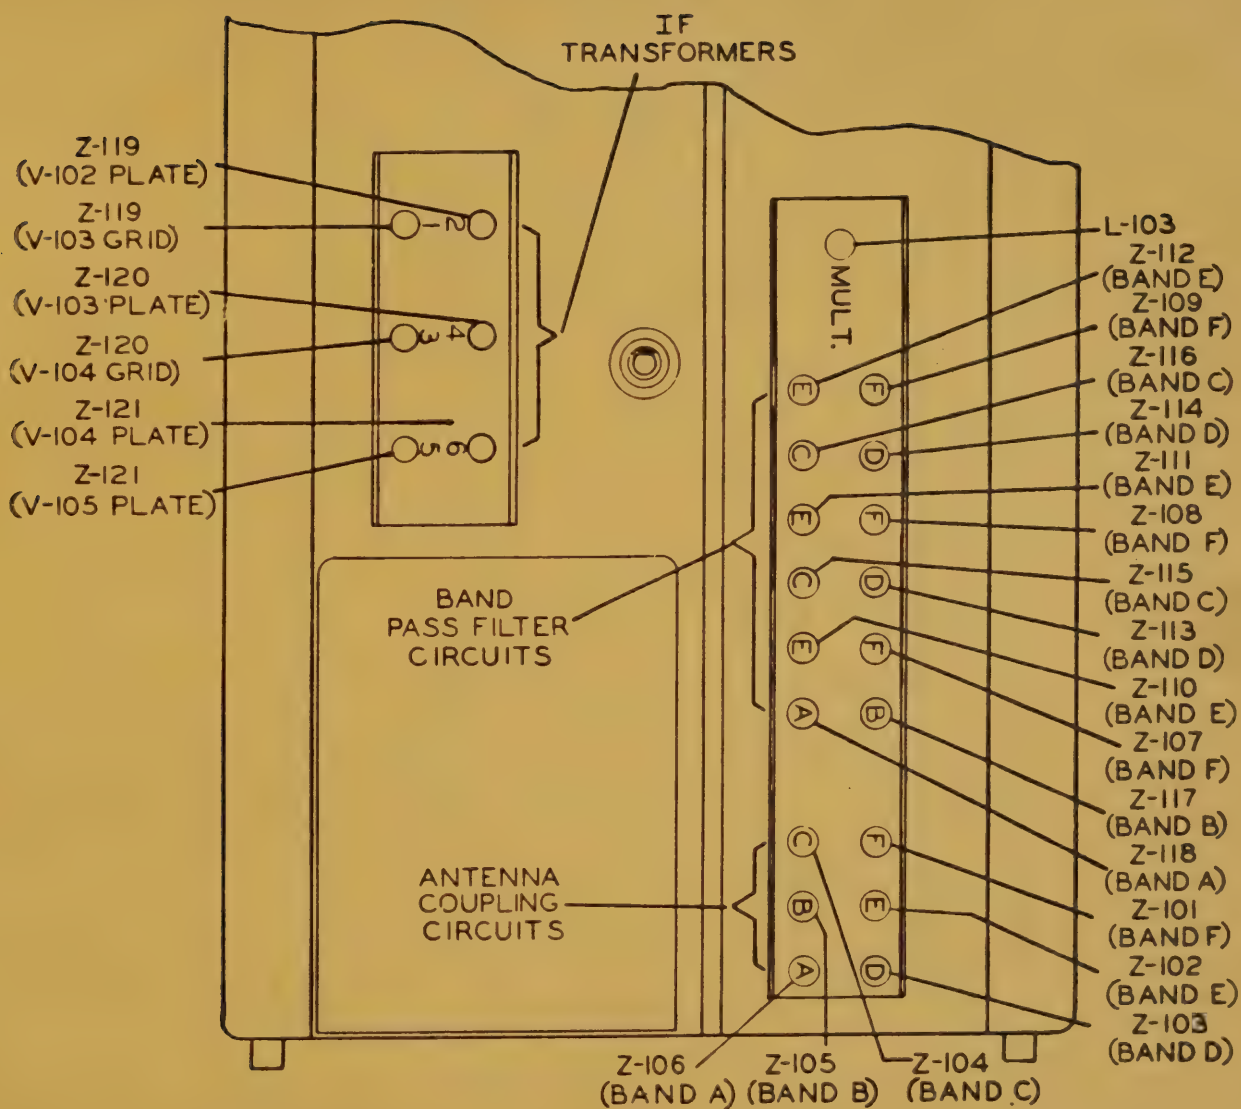

Figure 5-6A Tuned Circuit Locating Diagram
(9) Adjust i-f slug numbered "1" (Z-119, V-102 Plate) on the i-f platform (see figure 5-6A) for maximum output meter readings. Repeat procedure for slugs 2-3-4-5 and 6.
(1) Rotate the TUNING control to the stop on the high frequency end of the band, then back away from the stop from two to three turns of the TUNING control.
(2) Adjust the signal generator to the frequency arrived at on the receiver. Adjust both the signal generator and the output meter to find the avc threshold level as outlined in steps (7) and (8) under i-f alignment procedure.
(3) Check the band pass and antenna coil tuning slugs of the band or bands to be aligned to make sure they are near the end of travel out of their respective coils (refer to Figure 5-6A).
(5) Stamped on the cover adjacent to each hole will be found a letter and a number. The letter corresponds to the band indicated on the tuning dial and the associated slug as shown on Figure 5-6A. Use a non-metallic alignment screwdriver to adjust the trimmer capacitor corresponding to the band it is desired to adjust.
(6) Trimmer and slug adjustments are numbered consecutively beginning with the antenna coil. Adjustments for any one band should be made beginning with the highest numbered trimmer or slug adjustment and proceed to lower numbered trimmer and slug adjustments. It should be noted that the number of tuned circuits varies with the frequency bands, increasing in number as the frequency is lowered.
(7) Each trimmer should be adjusted for maximum reading on the output meter, taking care to back off the signal generator output so as not to exceed the avc threshold level determined in step (5).
(8) After the high frequency end of a given band is adjusted according to the above procedure, tuning control should be rotated to the stop at the low frequency end of the band. Back away from the stop two or three turns of the TUNING control.
(9) Find the frequency with the signal generator and adjust the correspondingly designated slug for maximum output meter reading.
(10) Repeat steps (1), (7), (8) and (9) until satisfied that the mixer and antenna circuits are "tracking" with the oscillator multiplier circuits on any given band.